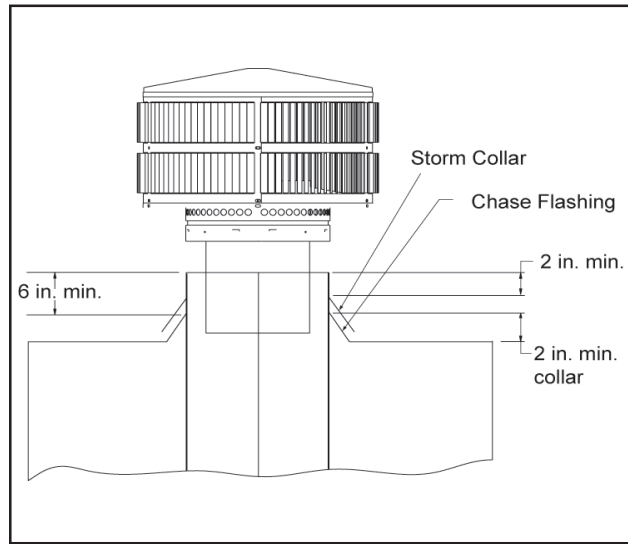

Figure 22 - Installing a TR344 Round Termination Cap
- a. Install the chimney sections up through the chase enclosure. When using a TR344 round termination cap, the uppermost top section of pipe must extend 6 in. above the top of the chase collar to allow installation of the storm collar and termination cap. See Figure 22.